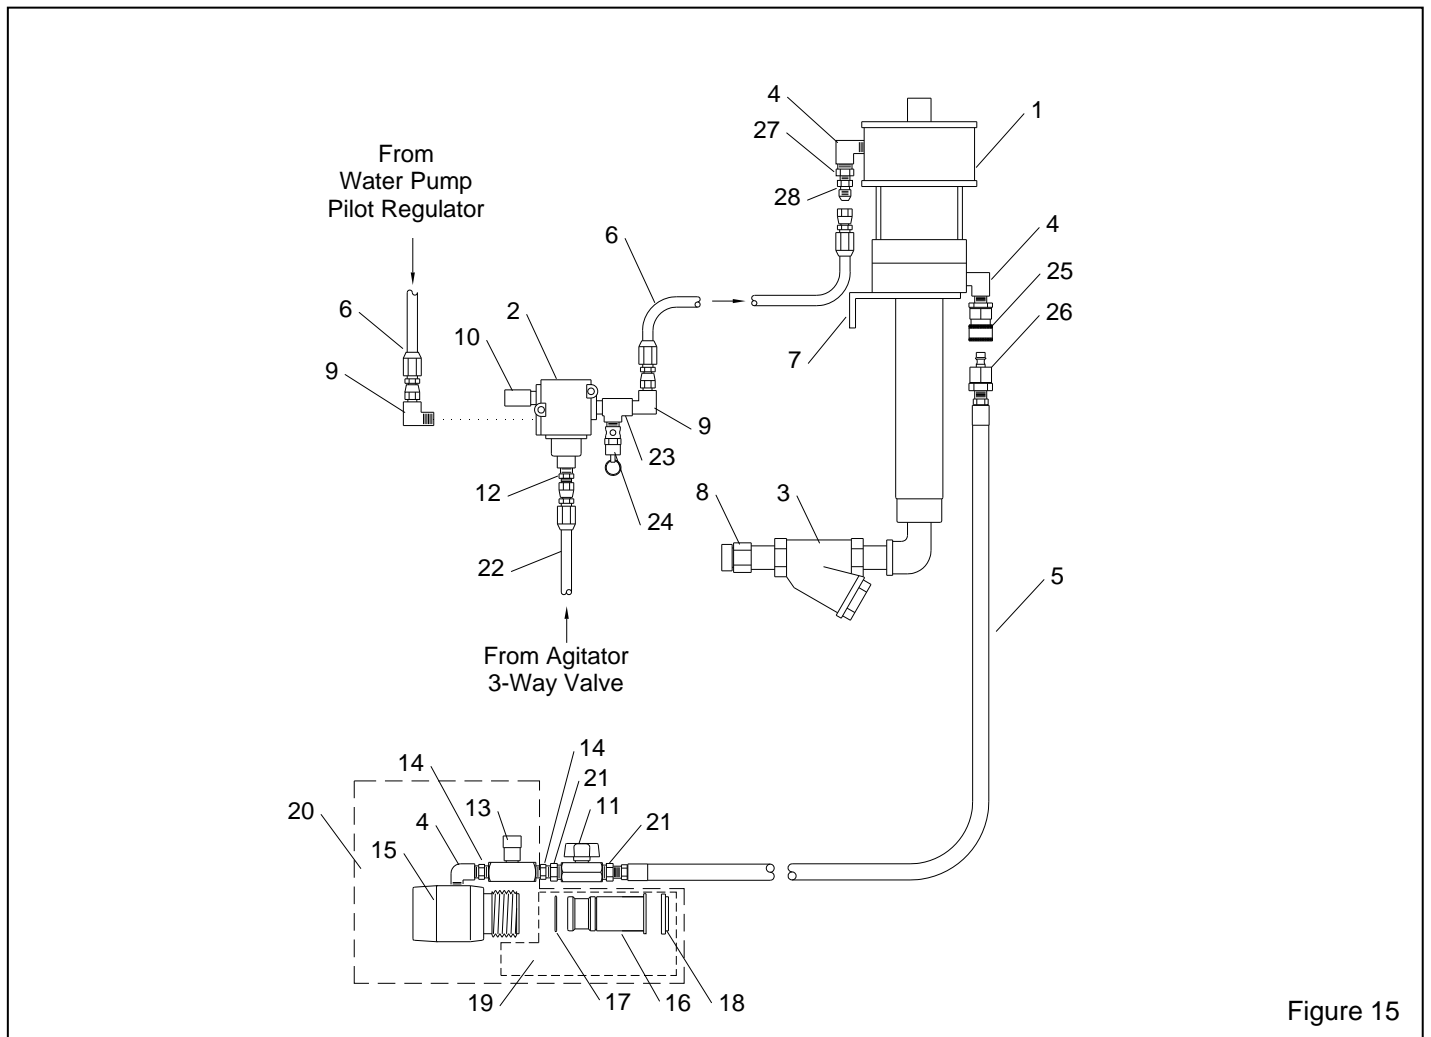

Figure 15
8.8 Water Pump Plumbing Schematic, Figure 15